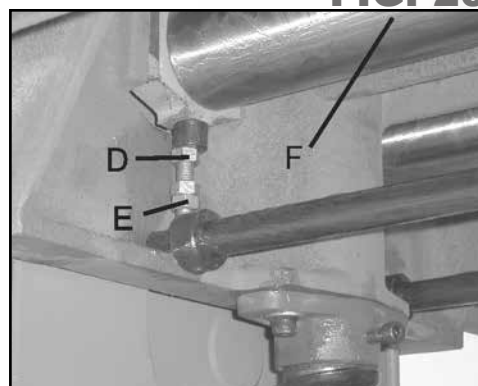

FIG. 20
4. If adjustment to the infeed table roll is necessary, loosen the locknut (D) Fig.20; located under the table and below the infeed roll and rotate adjustment nuts (E) as required to raise or lower the height of the infeed roll.